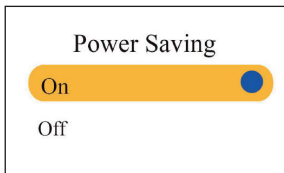

Figure 4.10F Power Saving setup
- **Power saving mode:** To turn on/off the Power Saving mode, the factory default is “On”, as shown in figure 4.10F